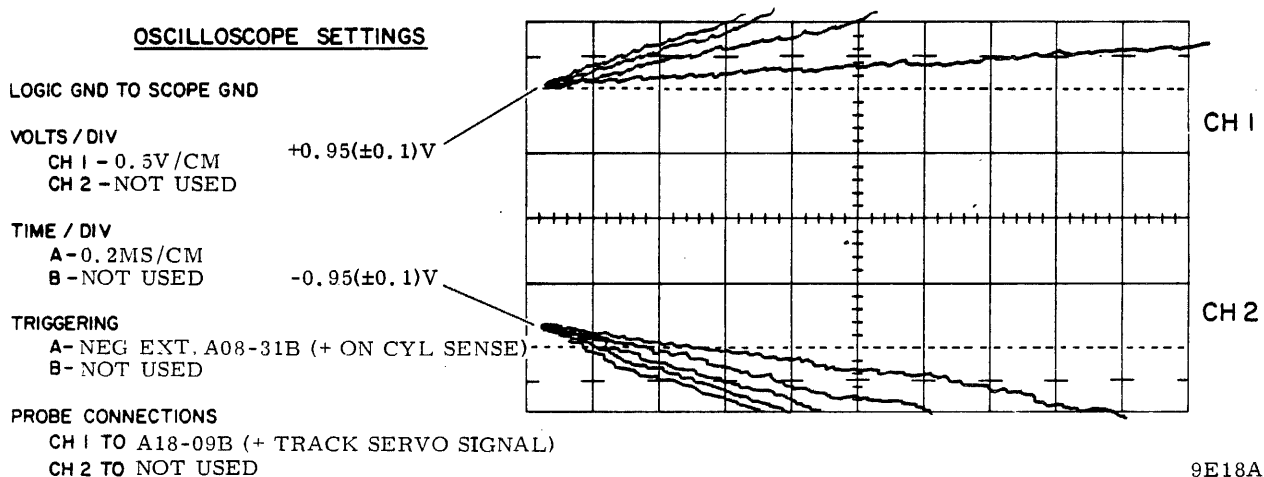

Figure 5-6. On Cylinder Switching Level - Waveform II
5. Setup and connect oscilloscope as shown on figure 5-6.
6. Observe display while manually moving carriage in forward and reverse directions. Check that resulting waveforms agree with those on figure 5-6.